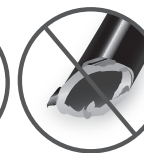

fig. 11
1. Cut the air line in half. Make clean, square cuts with a razor blade or hose cutter (Fig. 11). Do not use scissors or wire cutters.